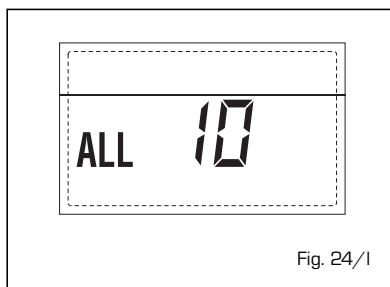

Fig. 24/l
**- MODULATOR ANOMALY ALARM 11** (fig. 24/m)